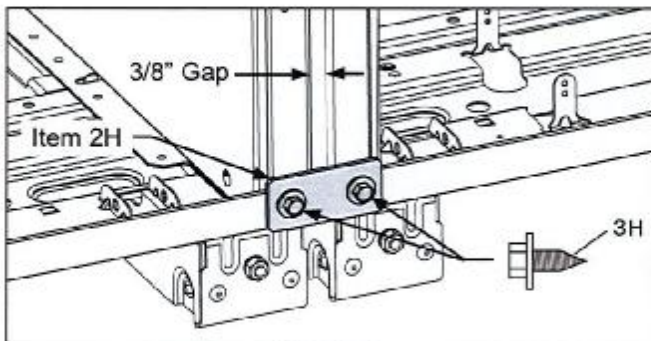

Figure 5.
5. a. Tie units together by securing the mounting bracket at the back of the units with a 3/8" socket. (See Figure 5).